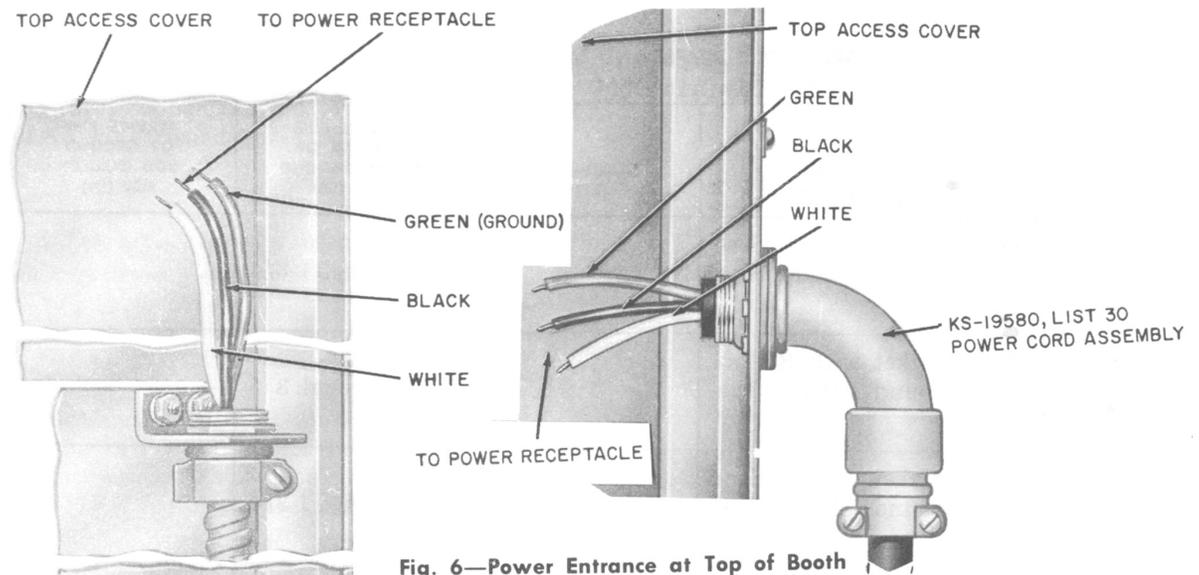

Fig. 6—Power Entrance at Top of Booth
2.06 Fig. 6 and 7 are typical outdoor power connections.